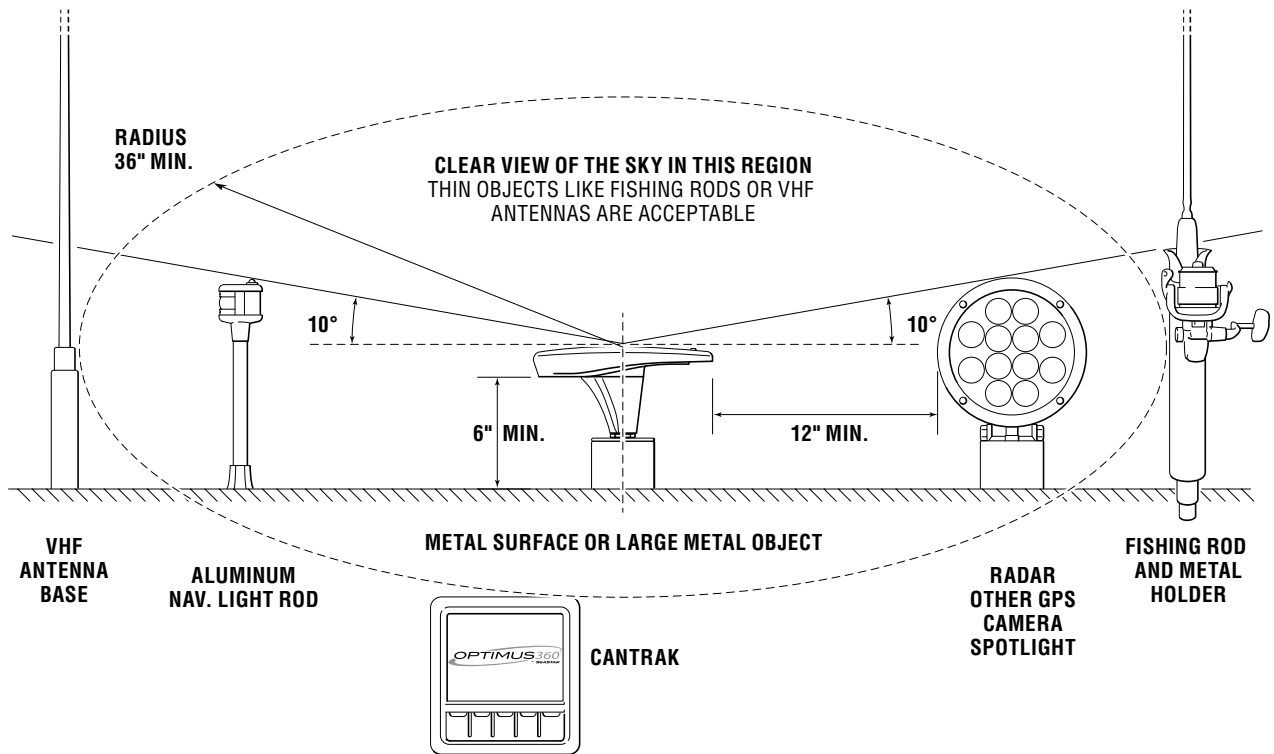

Figure 2-1. Sensor mounting distances.
2. The sensor must have a clear view of the sky down to 10° above the horizon (refer to figure 2-1).